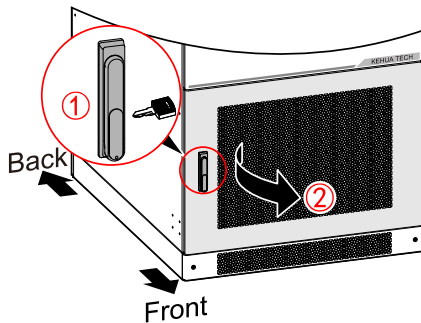

Figure4-11 Open the front door
Step 1 Open the front door of the energy storage system, as shown in Figure4-11.